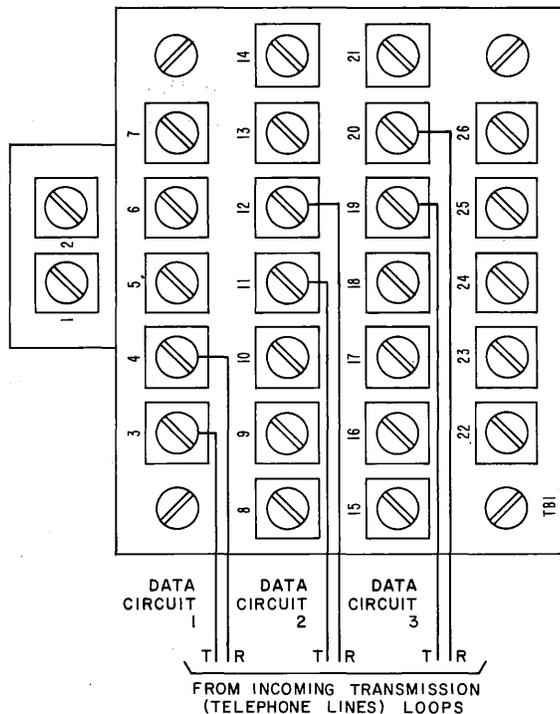

Fig. 12—Telephone Line Connection Diagram for Station-to-Hub Operation or Station-to-Station Operation When No Voltage Present on Incoming Transmission Loop
- (a) Connect one lead of the loop to terminal 4 (or 12, or 20) of TB 1 (Fig. 12). This lead is now designated as the ring lead of the loop.
- (b) Connect the remaining lead of the loop to terminal 3 (or 11, or 19) of TB 1 (Fig. 12). This lead is now designated as the tip lead of the loop.
acceptable. Connect the loop leads (tip and ring) to TB 1 of DAS 820E2 as shown in Fig. 12, and complete the following steps.
5.10 If the dc resistance of the incoming transmission loop is below 1800 ohms, the loop is not acceptable; however, connect the loop leads (tip and ring) to TB 1 of DAS 820E2 as shown in Fig. 12, and perform the following steps.